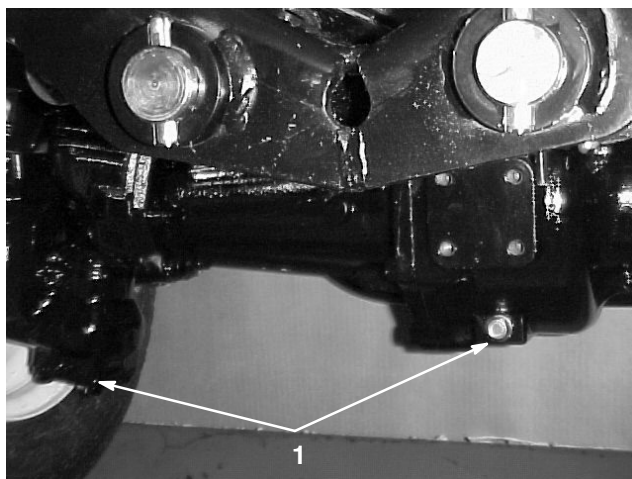

Figure 71
2. Clean the area around the 3 drain plugs, 1 on each end and 1 in the center (Fig. 71).